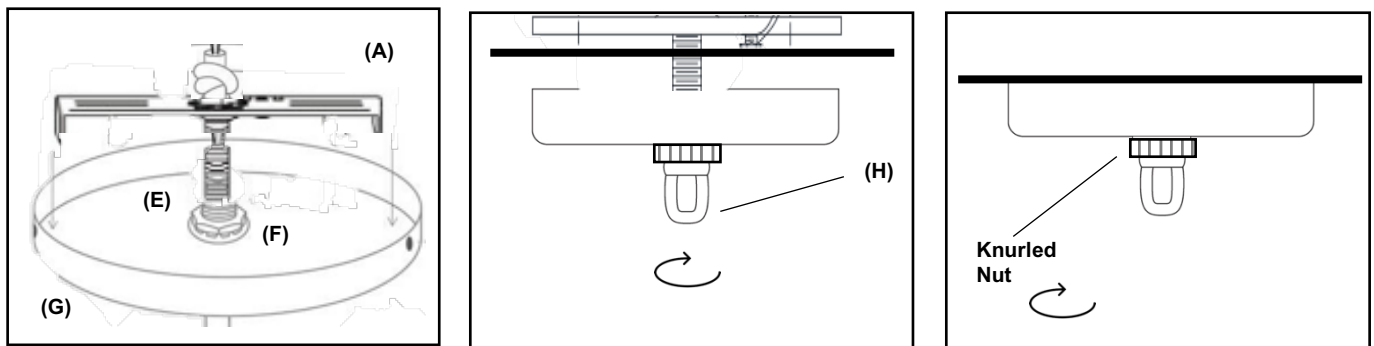
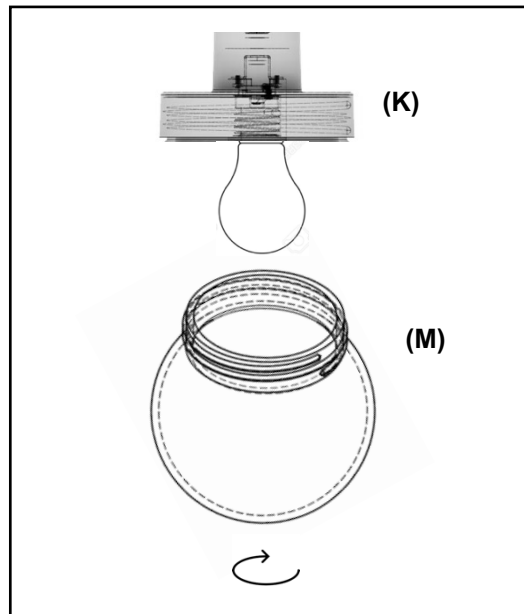

Fig 5
Fig 6
- 5) After all connections are made, attach the Canopy (G) to the Mounting Plate (A) by aligning the threaded Canopy Loop (H) with the threaded pipe on the Mounting Plate and rotating clockwise to engage. Ensure the Hex Nut (E) and Grounding Washer (F) are still in place. Next, rotate the knurled Nut on the Canopy Loop until the canopy tightens securely against the ceiling (Fig 5).
- 7) Insert (1) **60-watt maximum TYPE A** standard incandescent light bulbs (not included) into the socket. **DO NOT EXCEED THE RECOMMENDED WATTAGE.**
- 8) Carefully rotate the Glass cover (M) onto the Metal cap (K) in a clockwise direction by hand until tight (Fig 6). Use one hand to hold the Metal Cap in place and prevent from spinning, and the other hand to rotate the Glass cover. **ENSURE GLASS COVER IS SITTING FLAT INSIDE THE METAL CAP BEFORE ROTATING.**